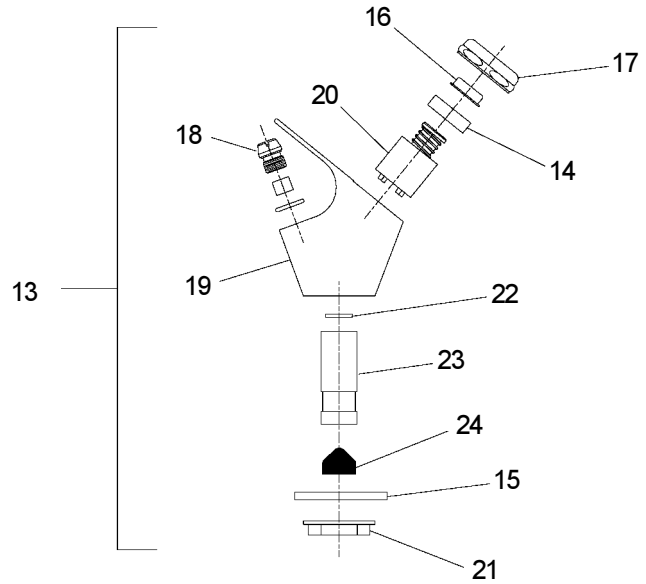

FIG. 2
STREAM HEIGHT ADJUSTMENT: Stream height is factory set at 45-50 PSI. If supply pressure varies greatly from this, remove items 16, and 17 (See figure 2) from bubbler assembly and adjust the screw on the regulator (Item 20). Clockwise adjustment will raise stream height and counterclockwise will lower the stream height. A stream height of 1-1/2" (38mm) is recommended.